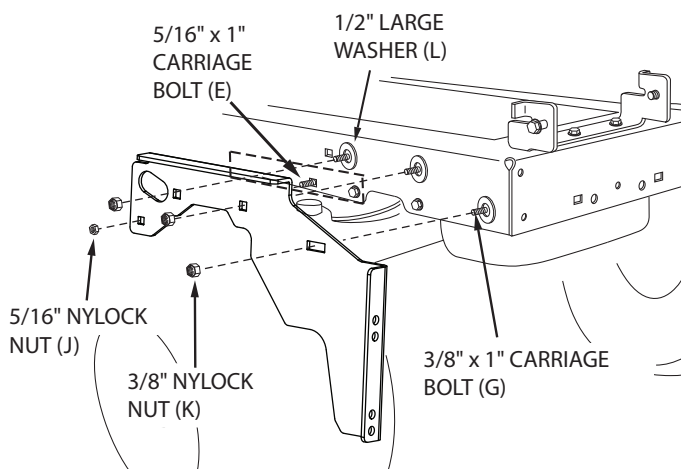

FIGURE 3b
If the tractor is a Husqvarna TS200 Series with dual pedal there will be a bracket like the one drawn with dotted lines in figure 3b. In the front three holes use three 3/8" x 1" carriage bolts (G), three large 1/2" washers (L), and three 3/8" nylock nuts (K). In the rear hole use a 5/16" x 1" carriage bolt (E), and a 5/16" nylock nut (J).